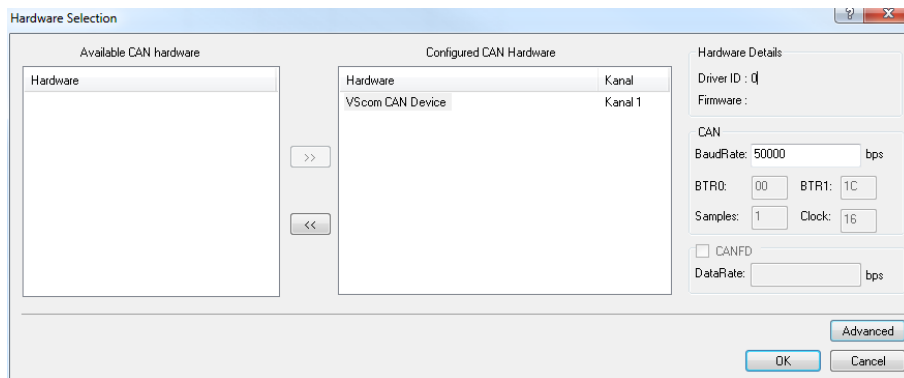

Figure 24: BUSMASTER: Select Hardware Interface
3. In the „Hardware Selection” dialog move „VScom CAN Device” from „Available CAN Hardware” to „Configured CAN Hardware” (see Figure 24)